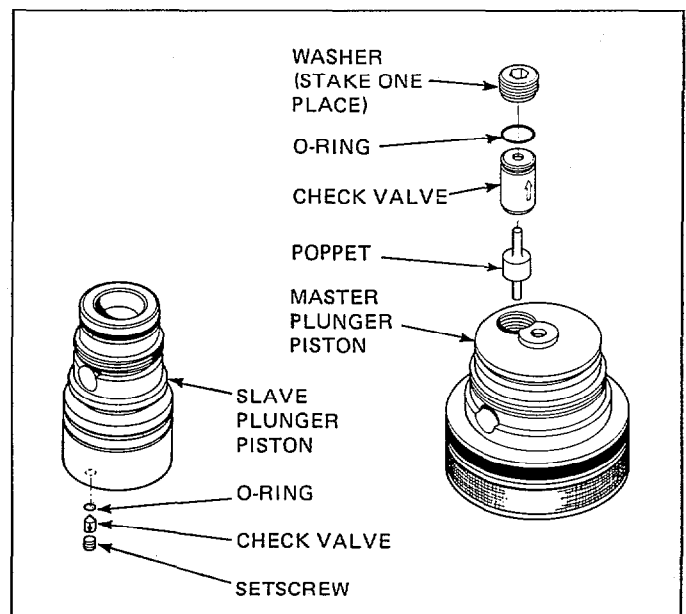

Figure 12. Check Valve Assembly
8. Remove the threaded washer and setscrew retaining the check valves in the pistons. See Figure 12. The washer and setscrew are staked in one place. Unstake them and remove the valves.
13. Install the new O-rings on the check valves and reinstall the check valve components on the pistons. See Figure 12.
IMPORTANT: Make sure you reinstall the check valve with the arrows (stamped on the valve body) pointing as shown in Figure 12.